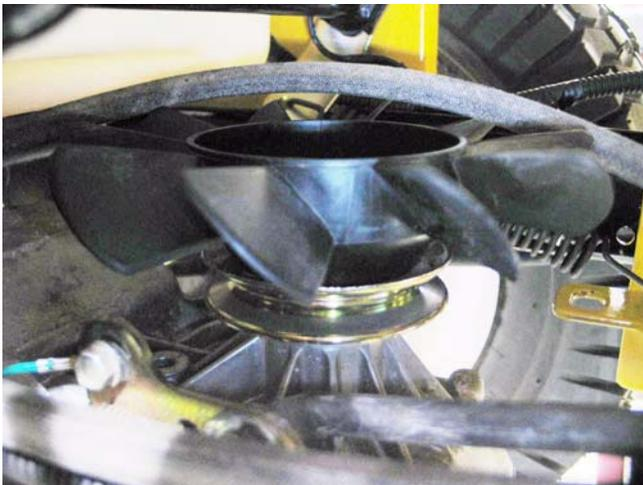

Figure 23.9
23.9. Carefully work the belt over the top of the cooling fan on the transaxle, and remove it from the tractor. See Figure 23.9.